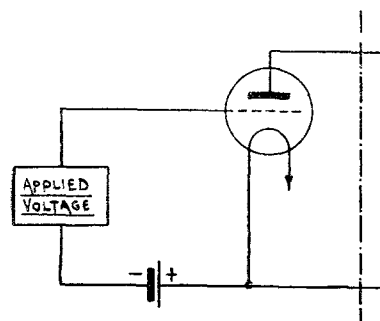

FIG. 18. Battery bias.
7. Grid Bias Methods.—(a) *Battery bias.*—This provides a steady bias but is cumbersome, requires maintenance and is not automatic (see fig. 18). (Dotted and missing parts do not immediately affect the grid bias.)